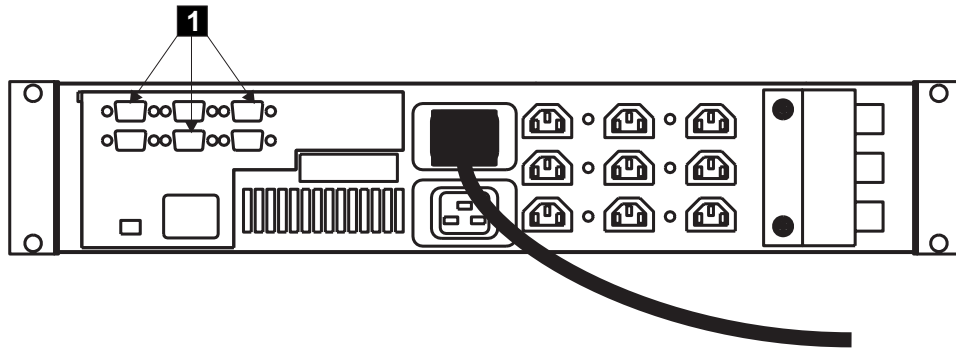

Figure 215. Disconnecting the 2145 UPS signal cables
2. At the back of the 2145 UPS, disconnect the signal cables. See **1** in Figure 215.